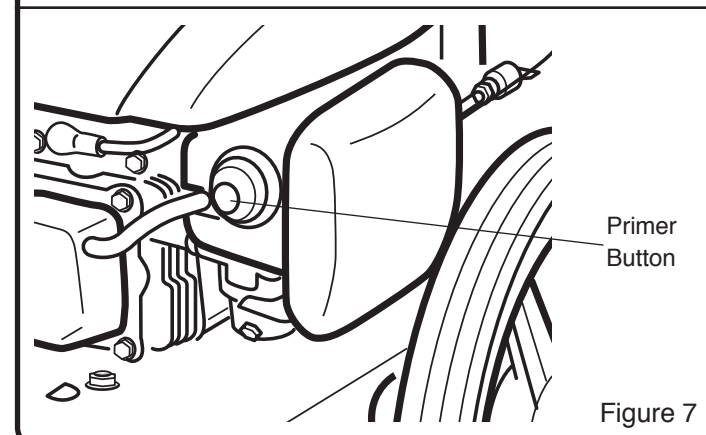

Figure 7
3. Push the Primer Bulb 3 times, waiting 2 seconds between each push. (See Figure 7)